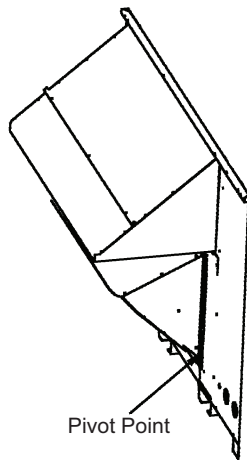

Fig. 11 — Pivot Point on Unit Panel
3. Place the barometric relief assembly into the unit. The accessory should pivot on the unit end panel. See Fig. 11 for location of pivot point.